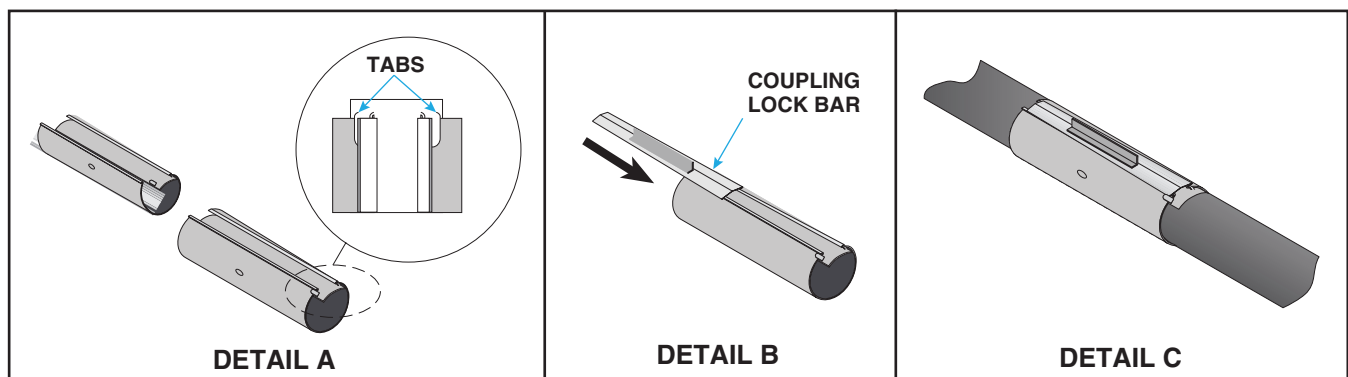

Figure 9. Coupling Installation
- a. Close coupling—tabs positioned beneath guide rails (see Figure 9, DETAIL A).
- b. Slide wide end of coupling lock bar into end of coupling opposite tabs until snug (see Figure 9, DETAIL B).
- e. Tighten coupling lock bar—tap with hammer as necessary—until positioned as shown in Figure 9, DETAIL C. DO NOT OVERTIGHTEN.